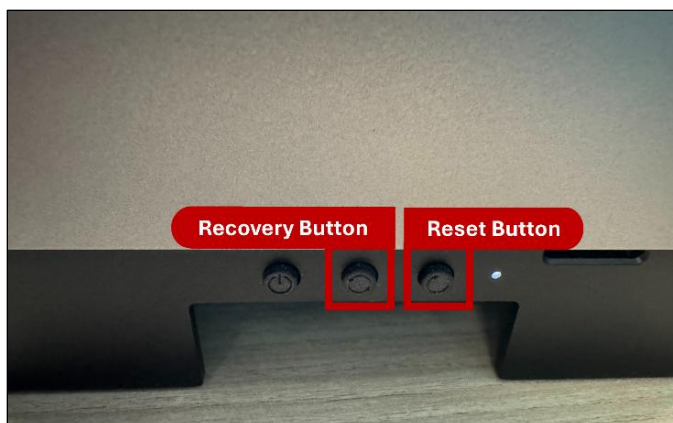

Figure 6.5. Recovery and Reset Button
3. Place the AGX Orin into recovery mode by pressing and holding the recovery button as shown in Figure 6.5. While holding the recovery button, press the reset button and release it. Wait at least three seconds, then release the recovery button.
11. Complete **STEP 04 – SUMMARY FINALIZATION** to finish the setup. Reset the Jetson AGX Orin system by pressing the reset button as shown in Figure 6.5. Then proceed to the next section to configure the Jetson AGX Orin itself.